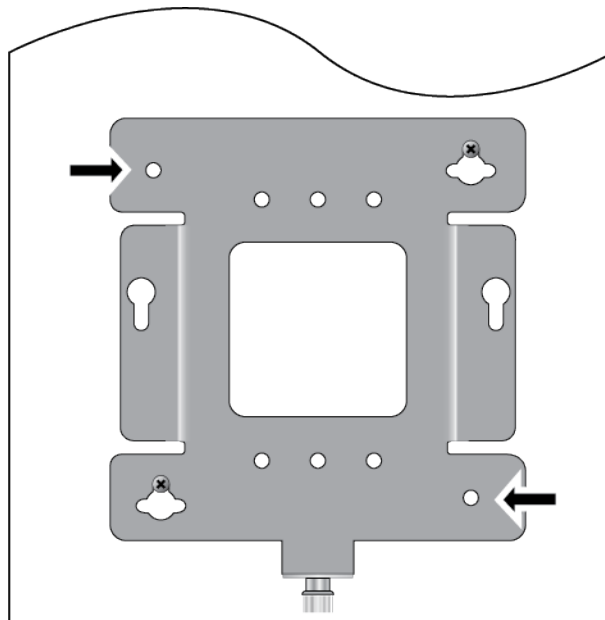

Figure 18. Pre-Drill Holes on Mounting Bracket
8. To secure the mounting bracket, pre-drill holes through the two bracket mounting holes opposite the keyhole slots. See Figure 18.